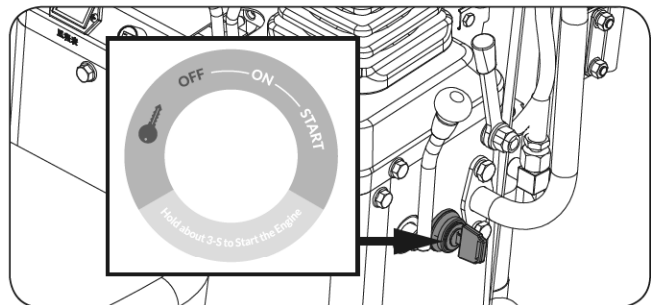

Figure 25
5. Active the Key Ignition Switch by turning it fully clockwise toward "START". Release the key as soon as the engine starts, it will automatically return to the Run "ON" position. Do not active the key continuously for more than 5 to 10 seconds at a time. (See **Figure 25**)